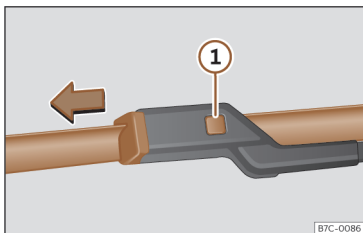

Fig. 199 Changing the windscreen wiper blades
- Press and hold release button >>> **Fig. 199** ① and pull gently on the wiper blade in the direction of the arrow.